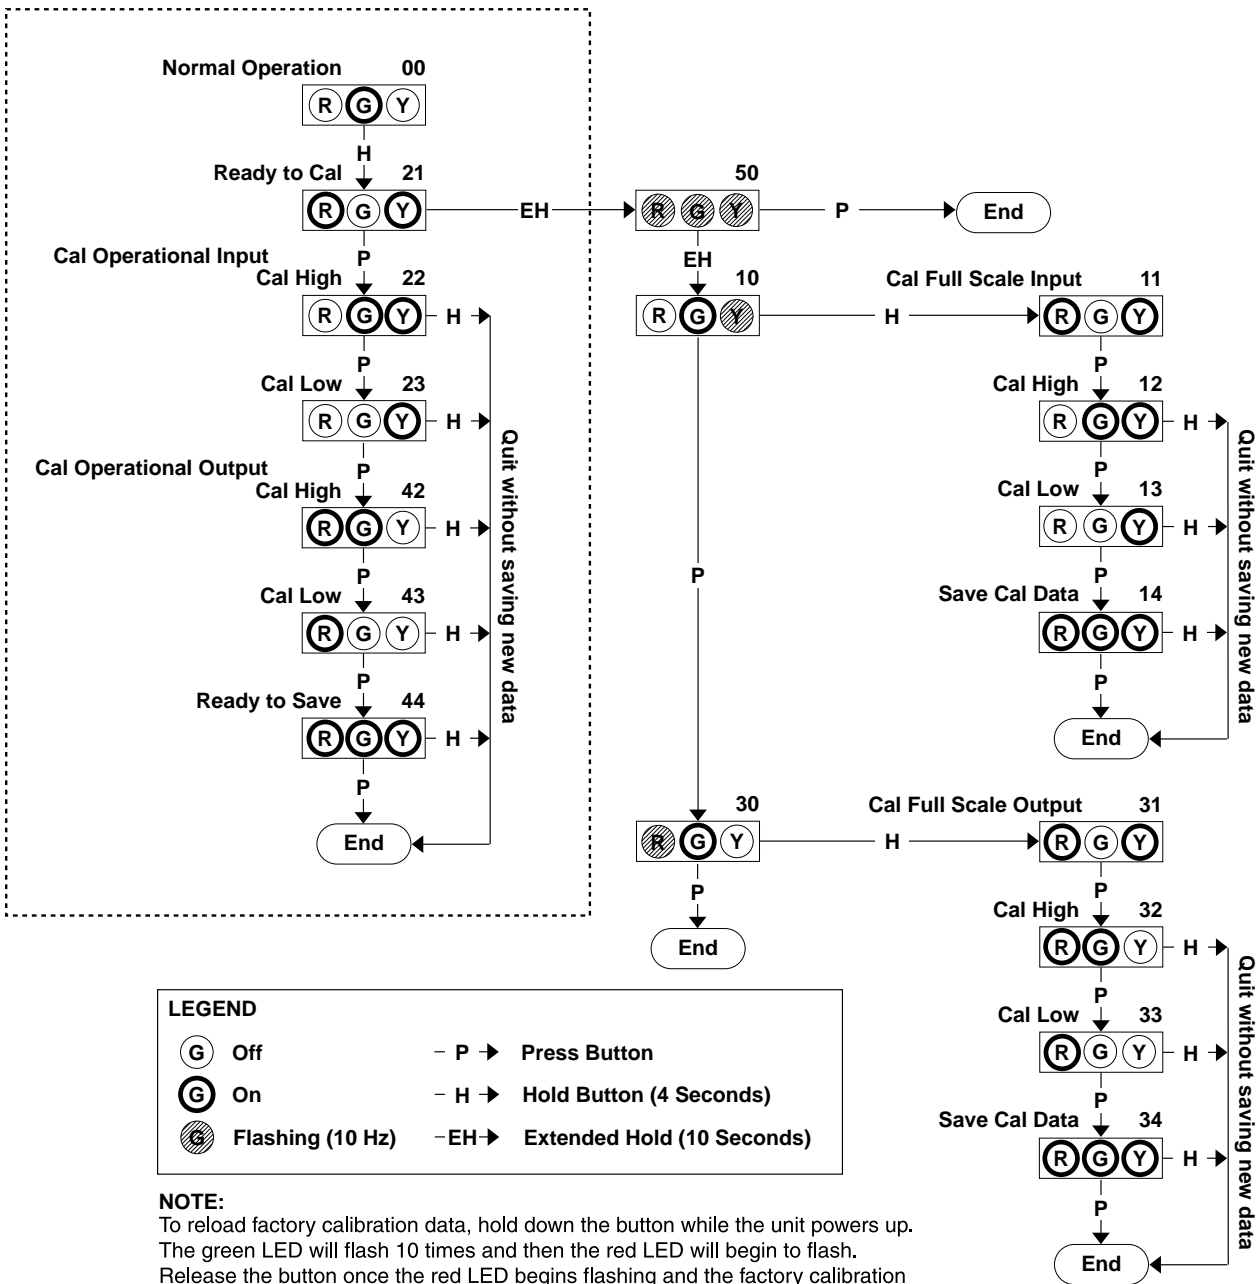

Figure 3: WV408 Calibration Flowchart
1. Connect the input to a calibrated DC source and the output to a voltage or current meter. Apply power and allow the system to reach thermal equilibrium. Refer to Figure 3 for a detailed flow chart of the procedure. The section in the dotted-line box is all that is required for